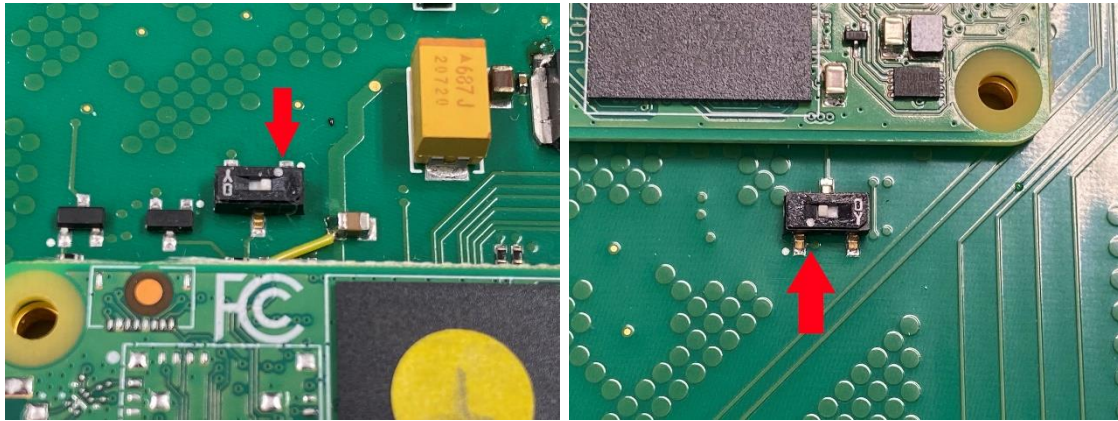

Figure 7 Picture showing switch settings.
6. Set SW1 to pin 1, see red arrow in Figure 7.
7. Set SW2 to pin 1, see red arrow in Figure 7.